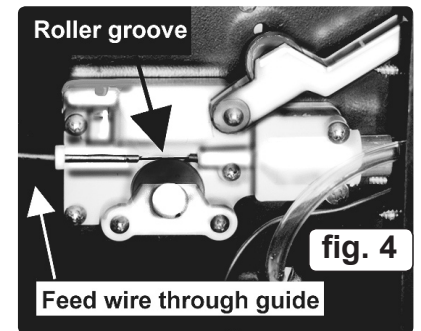

fig. 4
- 3.5.4. Straighten about 40-50mm of spool wire (*do not allow wire to uncoil*), and gently push wire through the plastic guide and through the 6 or 8mm roller groove (see 6.2.), and through to the torch (fig. 4).